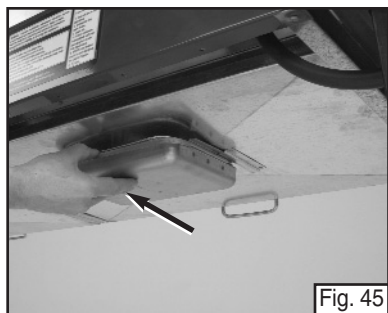

Fig. 45
- Remove Grease Pans. Slide out from front of grill to clean or install new aluminum liners in Grease Pans. (Fig. 45)